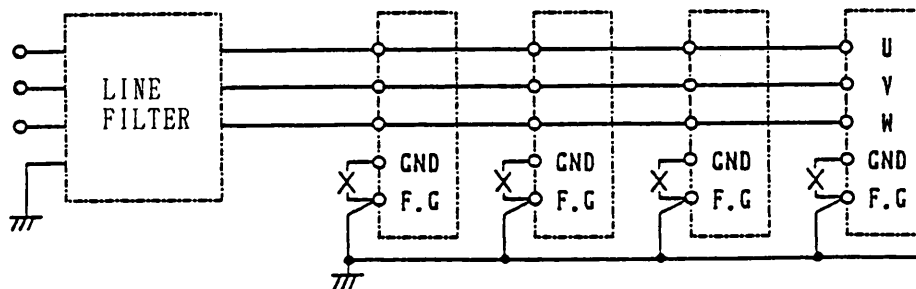

Figure 2-3
- When a multiple number of units are connected in parallel, the leak current from the built-in line filters increases by the number of units. If the increased leak current is not allowable, make open between the F.G and GND terminals and connect an extra line filter as shown in Figure 2-3.